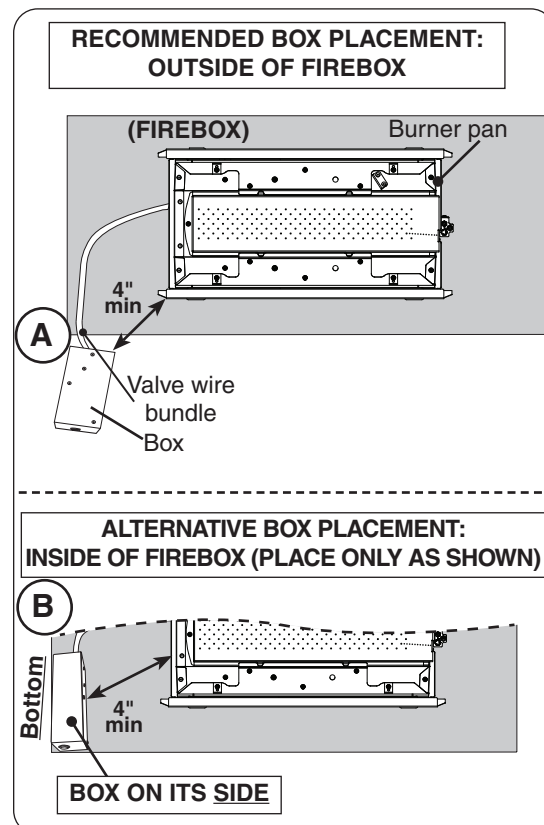

Fig. 14-3 Receiver/switch box placement
7. It is recommended the receiver/switch box be placed outside of the firebox (left or right side), and a minimum of 4" from the burner/flame. See Fig. 14-3, A.
Alternatively, the box can be placed inside of the firebox, but must be oriented as shown in Fig. 14-3, B. Set the box on its side and place the bottom of the box toward the left/right firebox wall (box must be a minimum of 4" from the burner/flame).